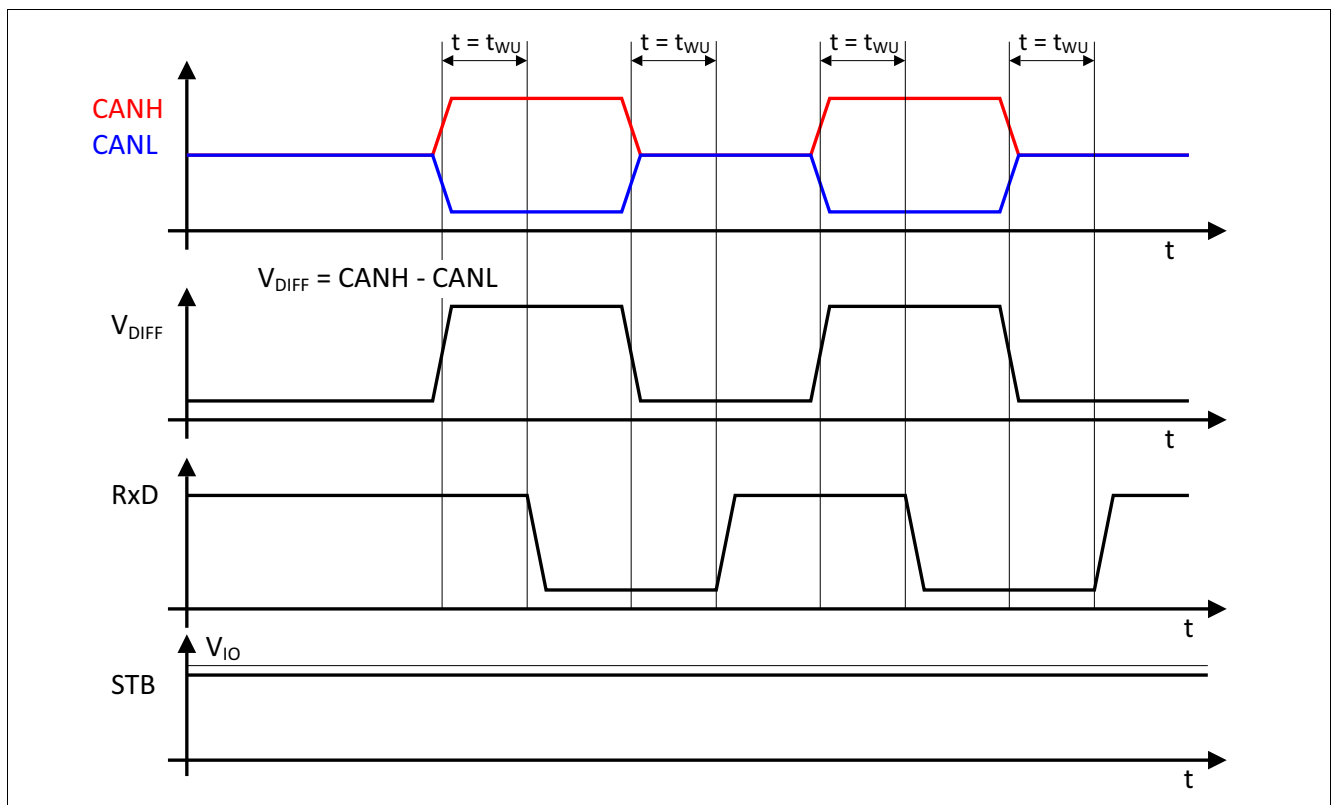

Figure 5 Wake-up pattern
- The RxD output is “high”, in case no wake-up signal on the CAN bus is detected (see Figure 5).
- The RxD output toggles according to the wake-up signal on the CAN bus (see Figure 5).
CAN bus signals, dominant or recessive, with a pulse width above the bus wake-up time  $t > t_{WU}$  are indicated on the RxD output pin (see Figure 5).